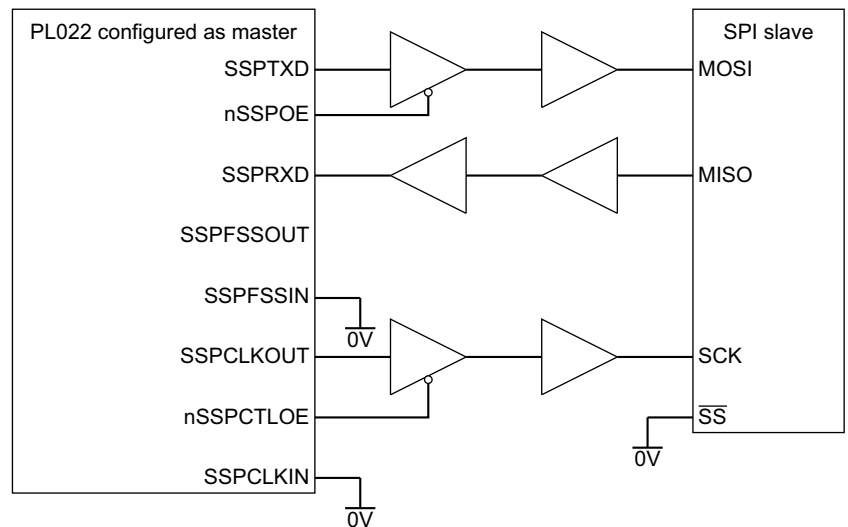
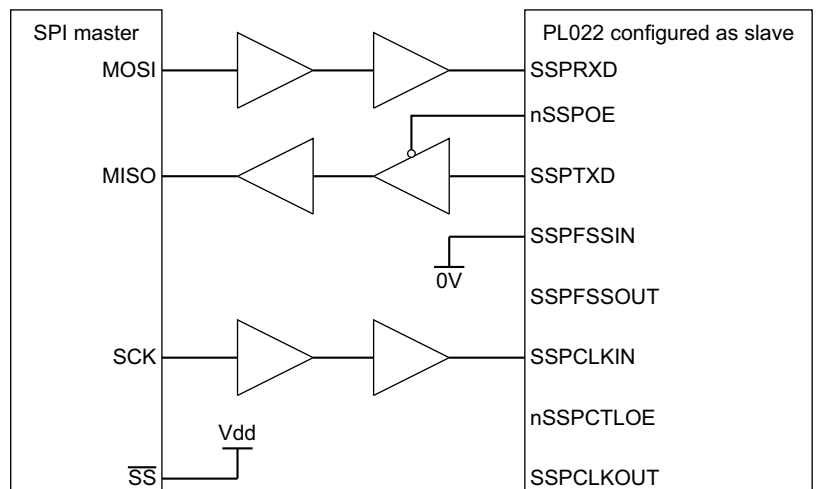

Figure 2-14 PrimeCell SSP master coupled to an SPI slave
Figure 2-15 SPI master coupled to a PrimeCell SSP slave
Figure 2-13, Figure 2-14 on page 2-18, and Figure 2-15 on page 2-18 show how you can connect the PrimeCell SSP (PL022) peripheral to other synchronous serial peripherals, when it is configured as a master or a slave.
Figure 2-14 on page 2-18 shows how an PrimeCell SSP (PL022), configured as master, interfaces to a Motorola SPI slave. The SPI *Slave Select* (SS) signal is permanently tied LOW and configures it as a slave. Similar to the above operation, the master can broadcast to the slave through the master PrimeCell SSP **SSPTXD** line. In response, the slave drives its SPI MISO port onto the **SSPRXD** line of the master.
Figure 2-15 shows a Motorola SPI configured as a master and interfaced to an instance of a PrimeCell SSP (PL022) configured as a slave. In this case, the slave *Select Signal* (SS) is permanently tied HIGH to configure it as a master. The master can broadcast to the slave through the master SPI MOSI line and in response, the slave drives its **nSSPOE** signal LOW. This enables its **SSPTXD** data onto the MISO line of the master.